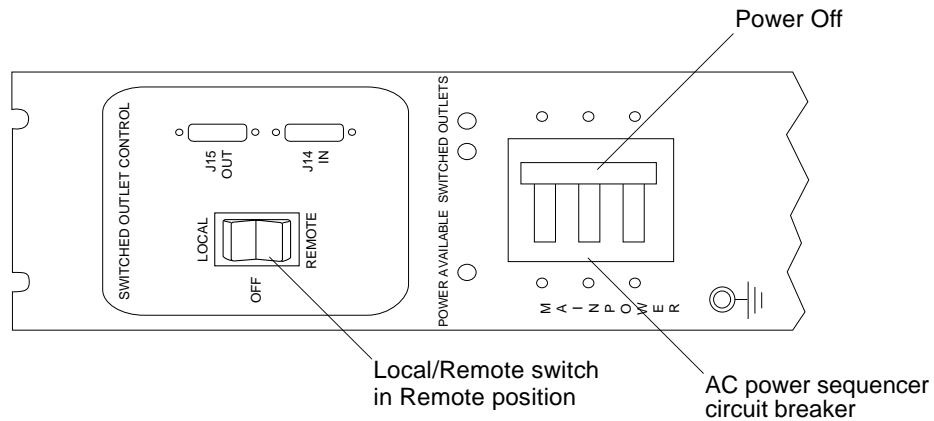

FIGURE B-8 AC Power Sequencer Control Panel: Power Off
5. At the bottom front and bottom back of the base cabinet and any expansion cabinet, verify that the Local/Off/Remote switch is in the Remote position (FIGURE B-8).